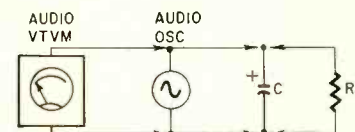

Fig. 2—Test setup.
To check an electrolytic, connect an audio vtvm the output of an audio oscillator set for 50 cycles. Connect the oscillator output across the capacitor (C), as shown in Fig. 2. Set the oscillator output and the range of the vtvm for a zero reading on the decibels scale of the meter. Note the reactance in the table to be expected